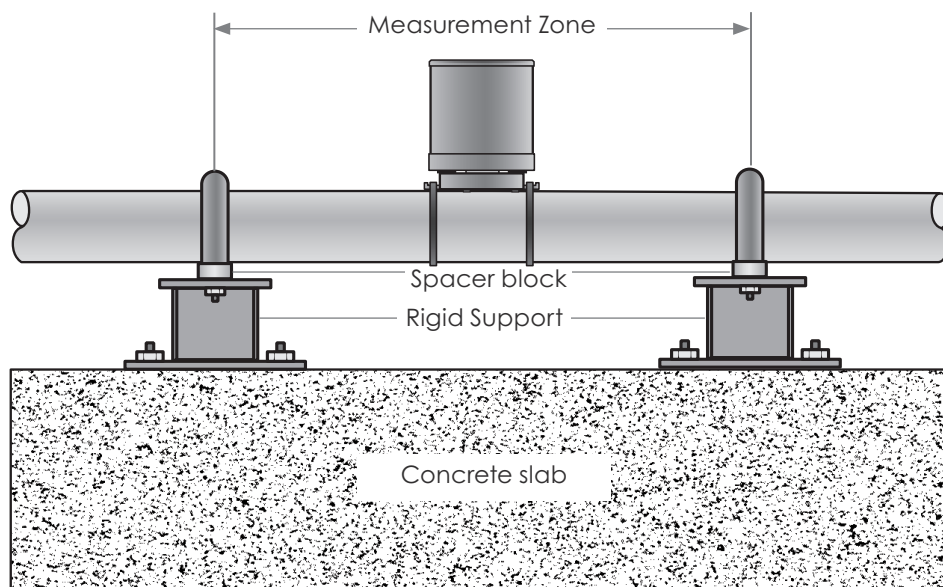

Figure 5.1 Measurement Zone using two Rigid Supports
- A rigid support column should be bolted to a concrete slab (Figure 5.1), buried in the ground, or attached to an immobile infrastructure using approved standard methods for supporting such pipes.